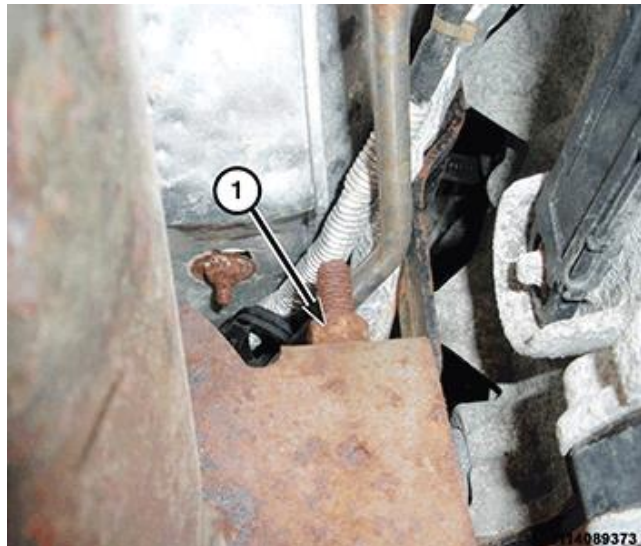

Figure 44 – Rear Steady Rest Bracket Nut
90. Remove the rear steady rest bracket nut and bracket (1) (Figure 44).
19. Install the rear steady rest bracket nut (1) and tighten to 24 N·m (18 ft. lbs.) (Figure 44).